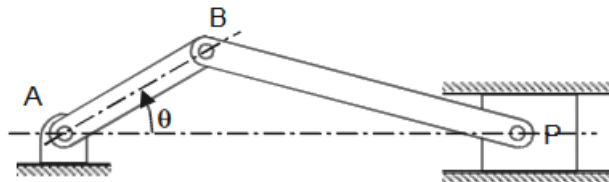

Figure 7
- 7) Figure 7 shows the slider crank mechanism. Write a MATLAB program that calculates and plots the position, velocity and acceleration of the piston for one full revolution of the crank. Assume that the crank is rotating at a constant speed of 550 rpm. Given radius of crank = 125 mm and radius of crank shaft = 250 mm.